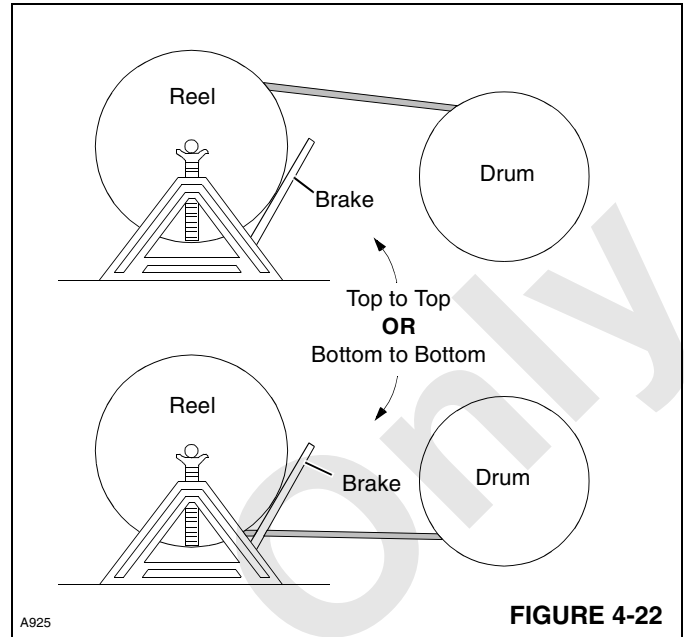

FIGURE 4-22
2. Provide a brake at shipping reel (see Figure 4-22) so wire rope can be wound tightly onto drum.
3. **Avoid a reverse bend when winding wire rope onto drum:** wind from top of reel to top of drum or from bottom of reel to bottom of drum as shown in Figure 4-22.